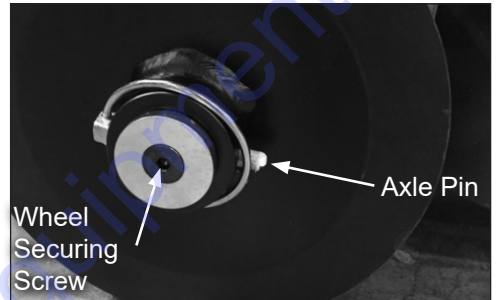

FIG. 13
5. Disengage and remove axle pin (Figure 13).
6. Remove wheel-securing screw with a 5/16" hex wrench (Figure 13).